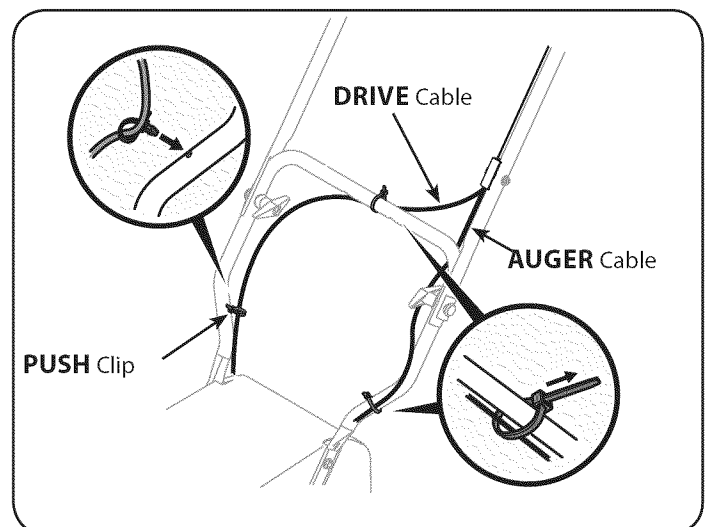

Figure 3
2. Slide the loosely fitted cable tie from the right side of the lower handle up to the cross member of the lower handle. Leave the second cable tie in place on the right side of the lower handle. See Figure 3 for reference.
NOTE: The auger cable routes down the left lower handle and the drive cable is routed across the top of the lower handle and down the right side of the lower handle. See Figure 3.
6. Two cable ties have been used to loosely tie the control cables to the lower handle. A push clip is also included on the lower drive cable. Position cable ties now, as in Figure 3, and tighten to secure cables to the lower handle. Trim off excess material of cable ties. Install the push clip into the hole in the handle provided as shown in the left inset in Figure 3.